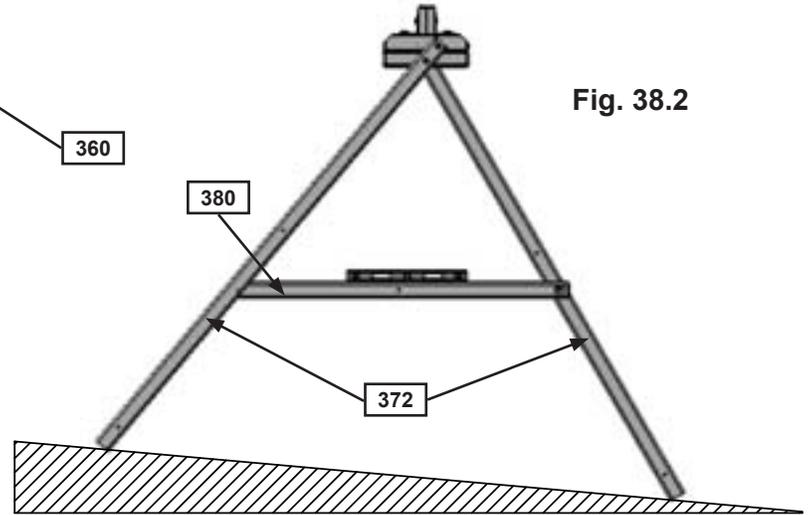

Fig. 38.2
B: To adjust for uneven ground, raise or lower the (380) Cross Support on the (372) SW Posts. Make sure the Cross Support is level prior to attaching with the lag screws. (fig. 38.2)